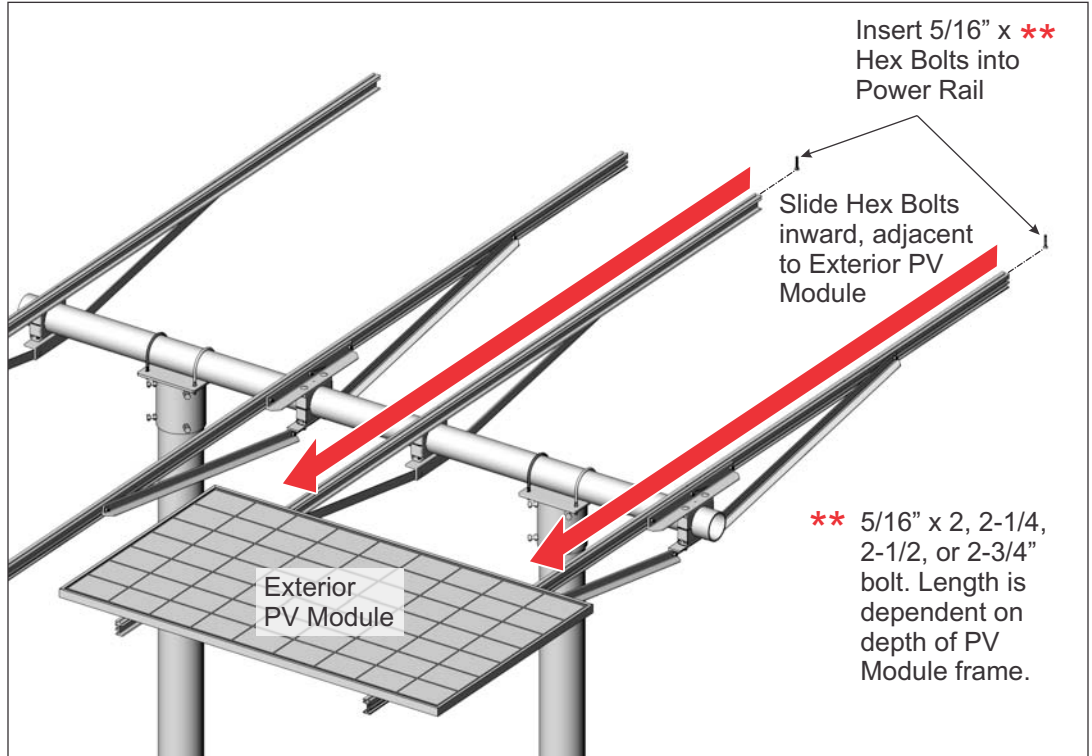

Figure 7-5: Inserting Mid Clamp Hardware
- A. Before placing an interior Module onto the Power Rails, first insert 5/16" x 2, 2-1/4, 2-1/2, or 2-3/4 inch carriage bolts (bolt length is dependent on depth of PV Module frame) into the Power Rail, sliding the bolts inward adjacent to the previously installed exterior Module. (See Figure 7-5)